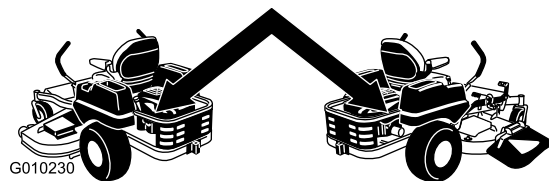

Figure 31
4. Move the bypass levers rearward and then down to lock them in place as shown in Figure 31 to disengage the wheel motors. Repeat this on each side of the machine.
Move the bypass to the position for driving the machine (Figure 31) to engage the wheel motors.